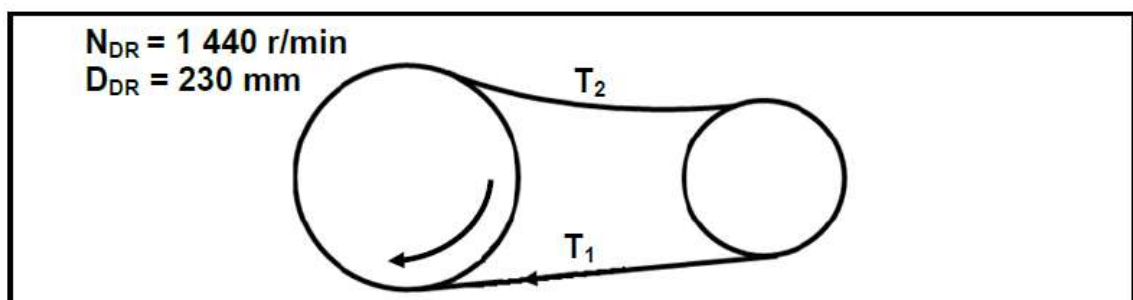

FIGURE 9.8
- 9.8 FIGURE 9.8 below shows a belt-drive system with a 230 mm driver pulley rotating at 1 440 r/min. The effective tensile force in the system is 165 N.